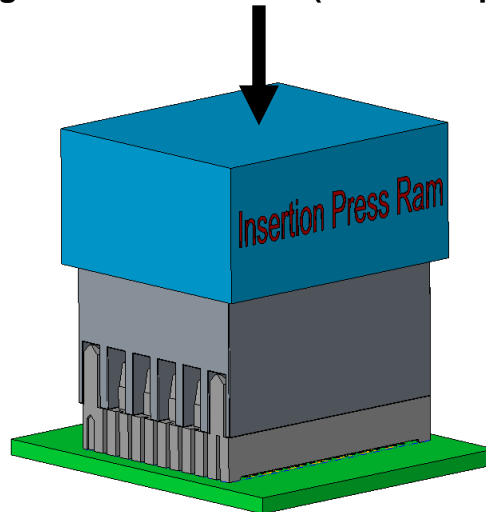

Figure 29: Insertion Press Ram Tool Used to Seat Vertical Connector
- Using an insertion press ram surface and an insertion tool, apply force to the top flat surface of the insertion tool as shown in figure 29.